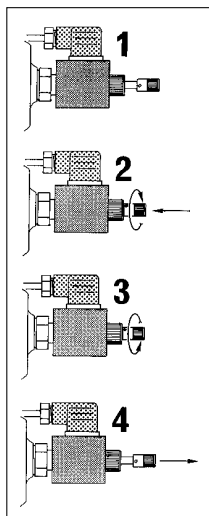

fig. 11b
- remove the lead seal placed on the electrovalve **G** (general), push the button and then turn it clockwise (fig. 11b pos. 1-2); the button stays in the closed position.
- **Put the button of the electrovalve G back to its original position, by turning it anti-clockwise (fig. 11b pos. 3-4)**